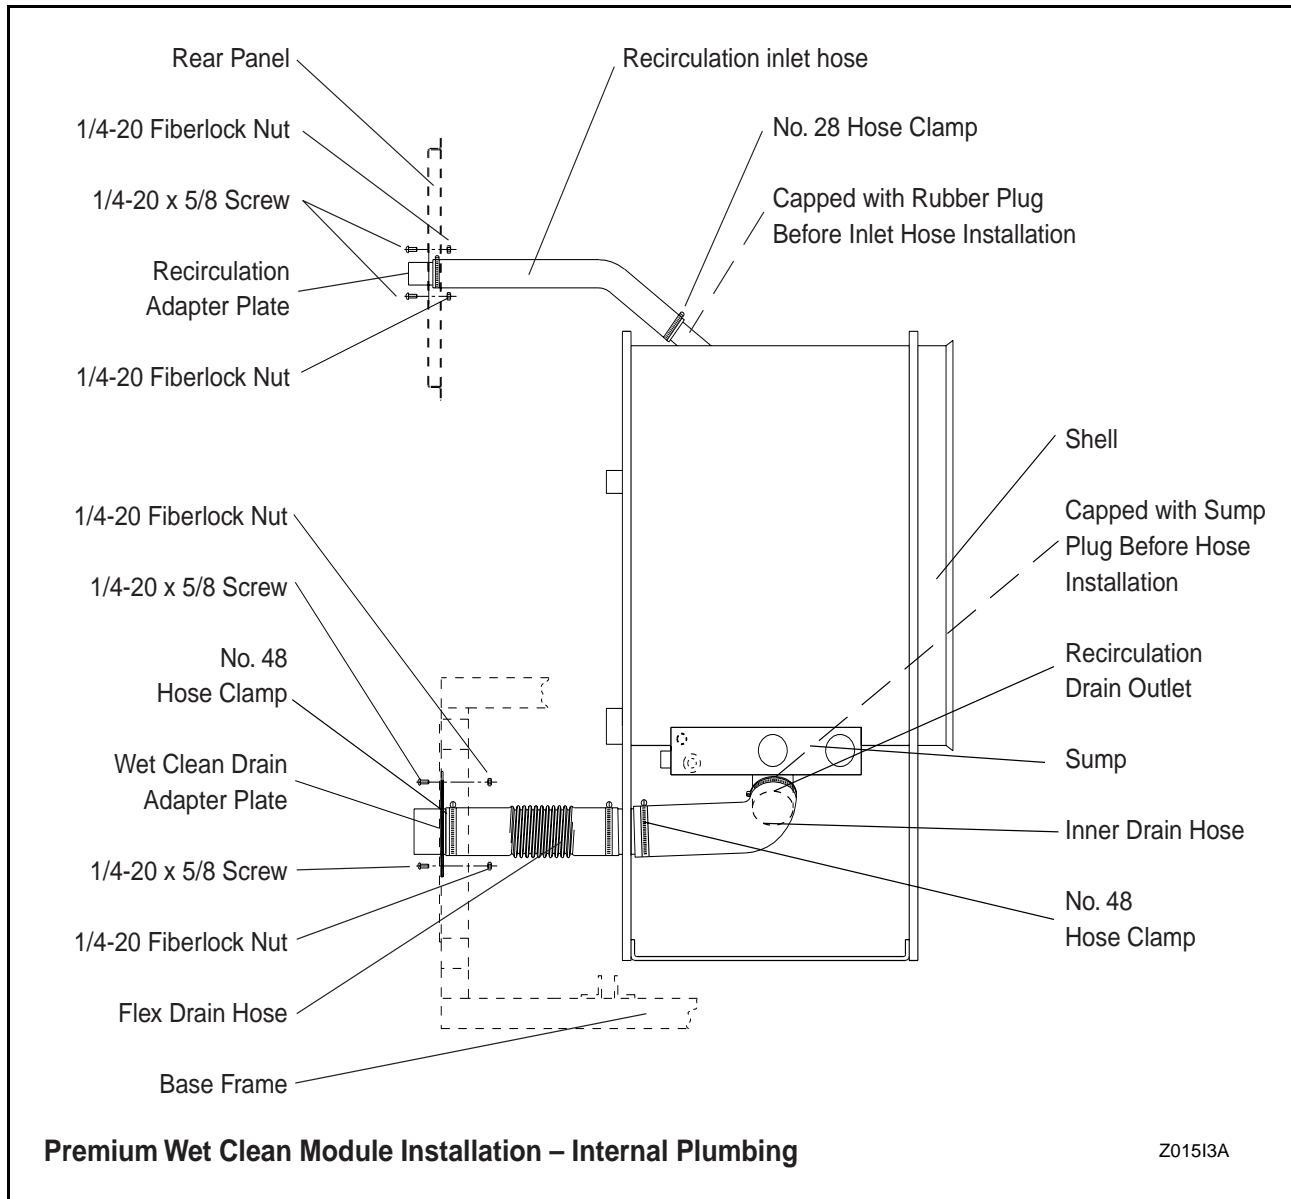

Figure 20
- b. Remove the sump plug from the recirculation drain outlet. See Figure 20.
d. Install the inner drain hose and flex drain hose as shown in Figure 20.
- a. Remove the cap on the recirculation inlet on top of the shell. See Figure 20.